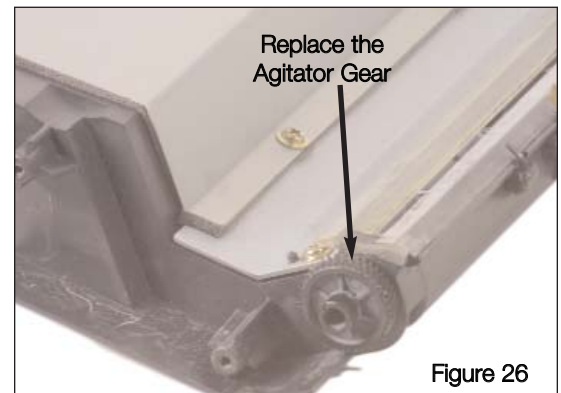

Figure 26
3. Replace the Waste Bin Agitator Gear, as shown in Figure 26.